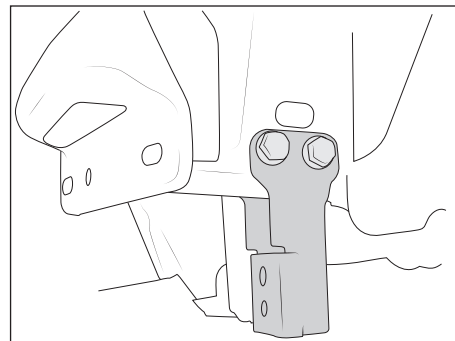

Figure 7
8. Remove compatibility hardware on both sides if equipped (fig. 7).
3. Re-install the compatibility hardware if equipped (see fig. 7) and LEAVE LOOSE at this time.